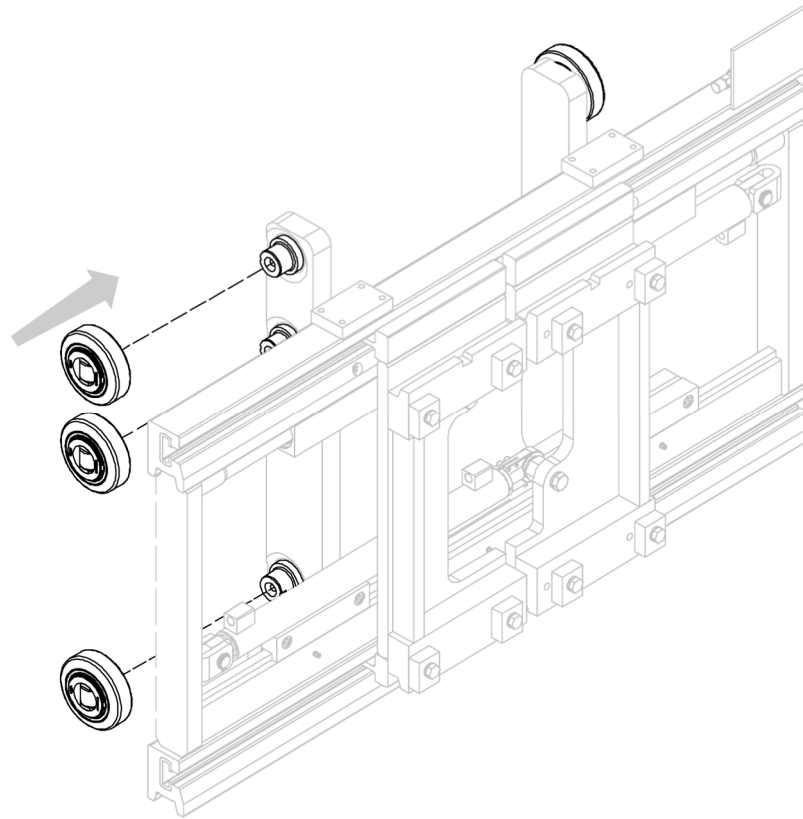

Figure 8
10. Couple the rollers/bearings (not always supplied) to the pins on the brackets of the equipment (see *Figure 8*. In this image, as in the following ones, the bearings, brackets and masts shown will be purely indicative, with the sole purpose of showing the correct assembly of the equipment, as they may vary depending on type).